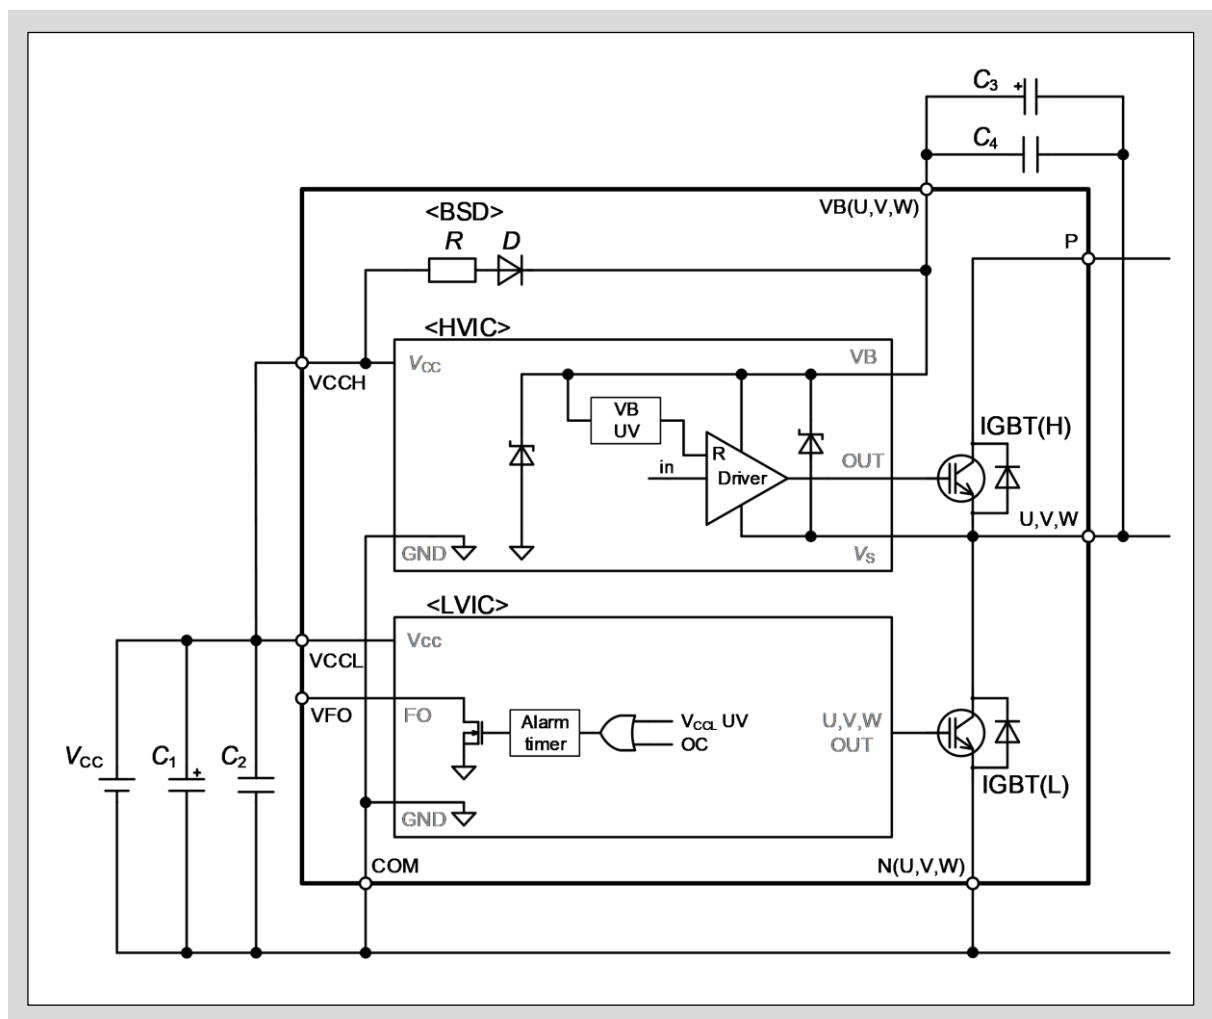

Fig.3-4 UV protection circuit of $V_B(U, V, W)$
- Fig.3-4 shows the UV protection circuit of high-side power supply terminals VB(U)-U, VB(V)-V, VB(W)-W, $V_{B(*)}$.
- As shown in Fig.3-4, diodes are electrically connected to the VB(U,V,W)-(U,V,W) and VB(U,V,W)-COM terminals. These diodes are built-in to protect the product from surge input. Do not use these diodes as voltage clamp diodes as it might damage the product.